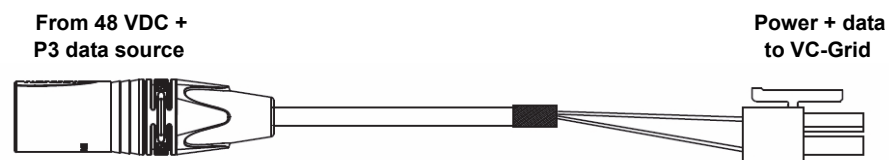

Figure 3: Hybrid-to-PCB adapter cable, P/N 11840158
6. Connect each hybrid link of VC-Grids to one of the four 4-pin female XLR hybrid (48 VDC power + P3 data) outputs on a P3 PowerPort 1500™ using a Martin™ hybrid 4-pin male XLR to PCB adapter cable, P/N 11840158 (see Figure 3).